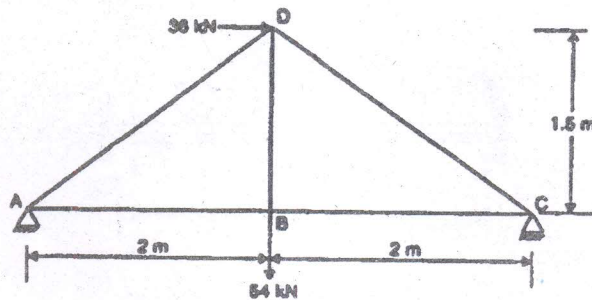

Fig. 8
20. Using the method of tension coefficients analyse the plane frame as shown in figure 8. (16)